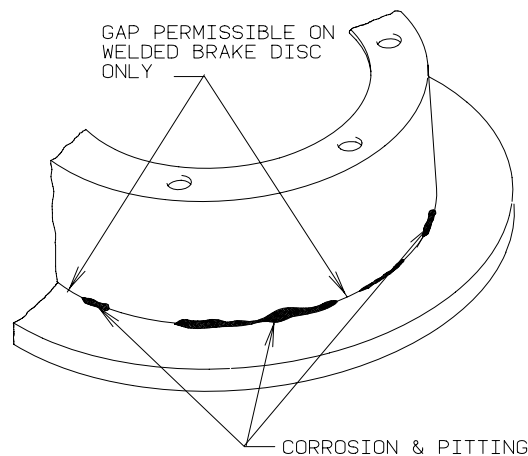

Figure 310 - Disc Inspection
- (8) Welded brake discs will have a slight gap on the side opposite the weld at the cup interface. This is normal. Ref. Figure 310.
- (9) Heat created during braking promotes the development of corrosion and pitting at the flange to cup area. Annually, or on condition, sandblast these areas or use a wire wheel to remove corrosion and pitting. Treat affected areas with zinc chromate primer and a coat of heat resistant spray paint. Heat resistant paints may be locally procured from auto parts supply.